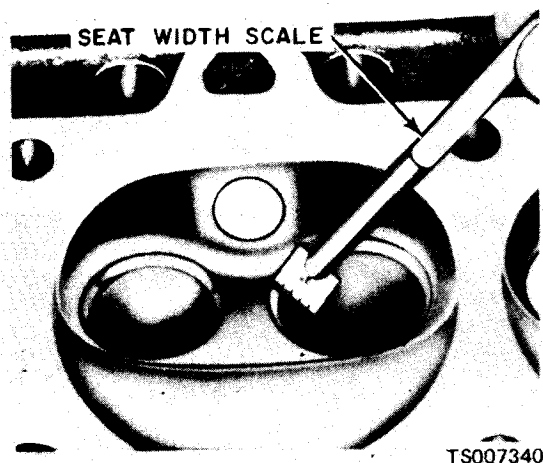

Figure 6-11. Checking Valve Seat Width
(5) Check valve seat width, as shown in figure 6-11. Intake valve seats must measure between 0.060 and 0.080 inch, while exhaust valve seats should measure 0.070 to 0.090 inches. Valve seats must be refaced if seat width is not within specifications.